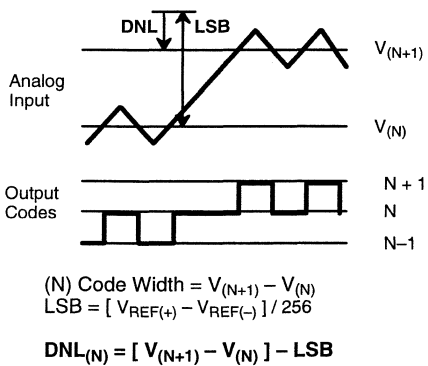

Figure 3. DNL Measurement
- 1 Tester measures code transitions by dithering the voltage of the analog input (V_{IN}). The difference between the measured and the ideal code width ($V_{REF}/256$) is the DNL error (*Figure 3*). The INL error is the maximum distance (in LSB's) from the best fit line to any transition voltage (*Figure 4*). Accuracy is a function of the sampling rate (F_S).